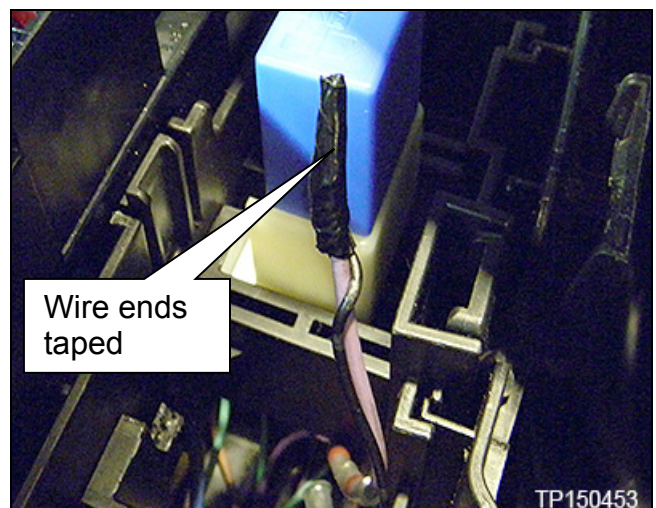

Figure 12
12. Cut the remaining two wires (purple and black; Figure 12) to the stop lamp relay connector, and discard the connector.